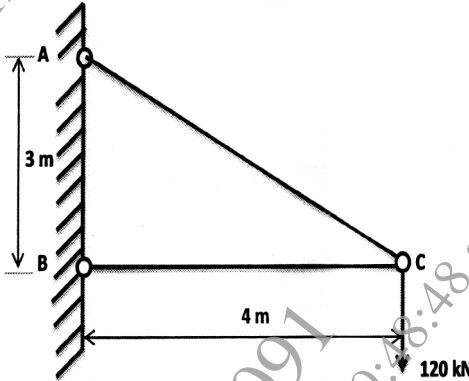

Fig. 5
3. (a) Find the vertical deflection of joint C of the pin jointed truss shown in Fig. 5. The cross-sectional area of horizontal member is 1600 mm^2 and the c/s area of inclined member is 2000 mm^2 each. Take $E = 200 \text{ kN/mm}^2$. [6]